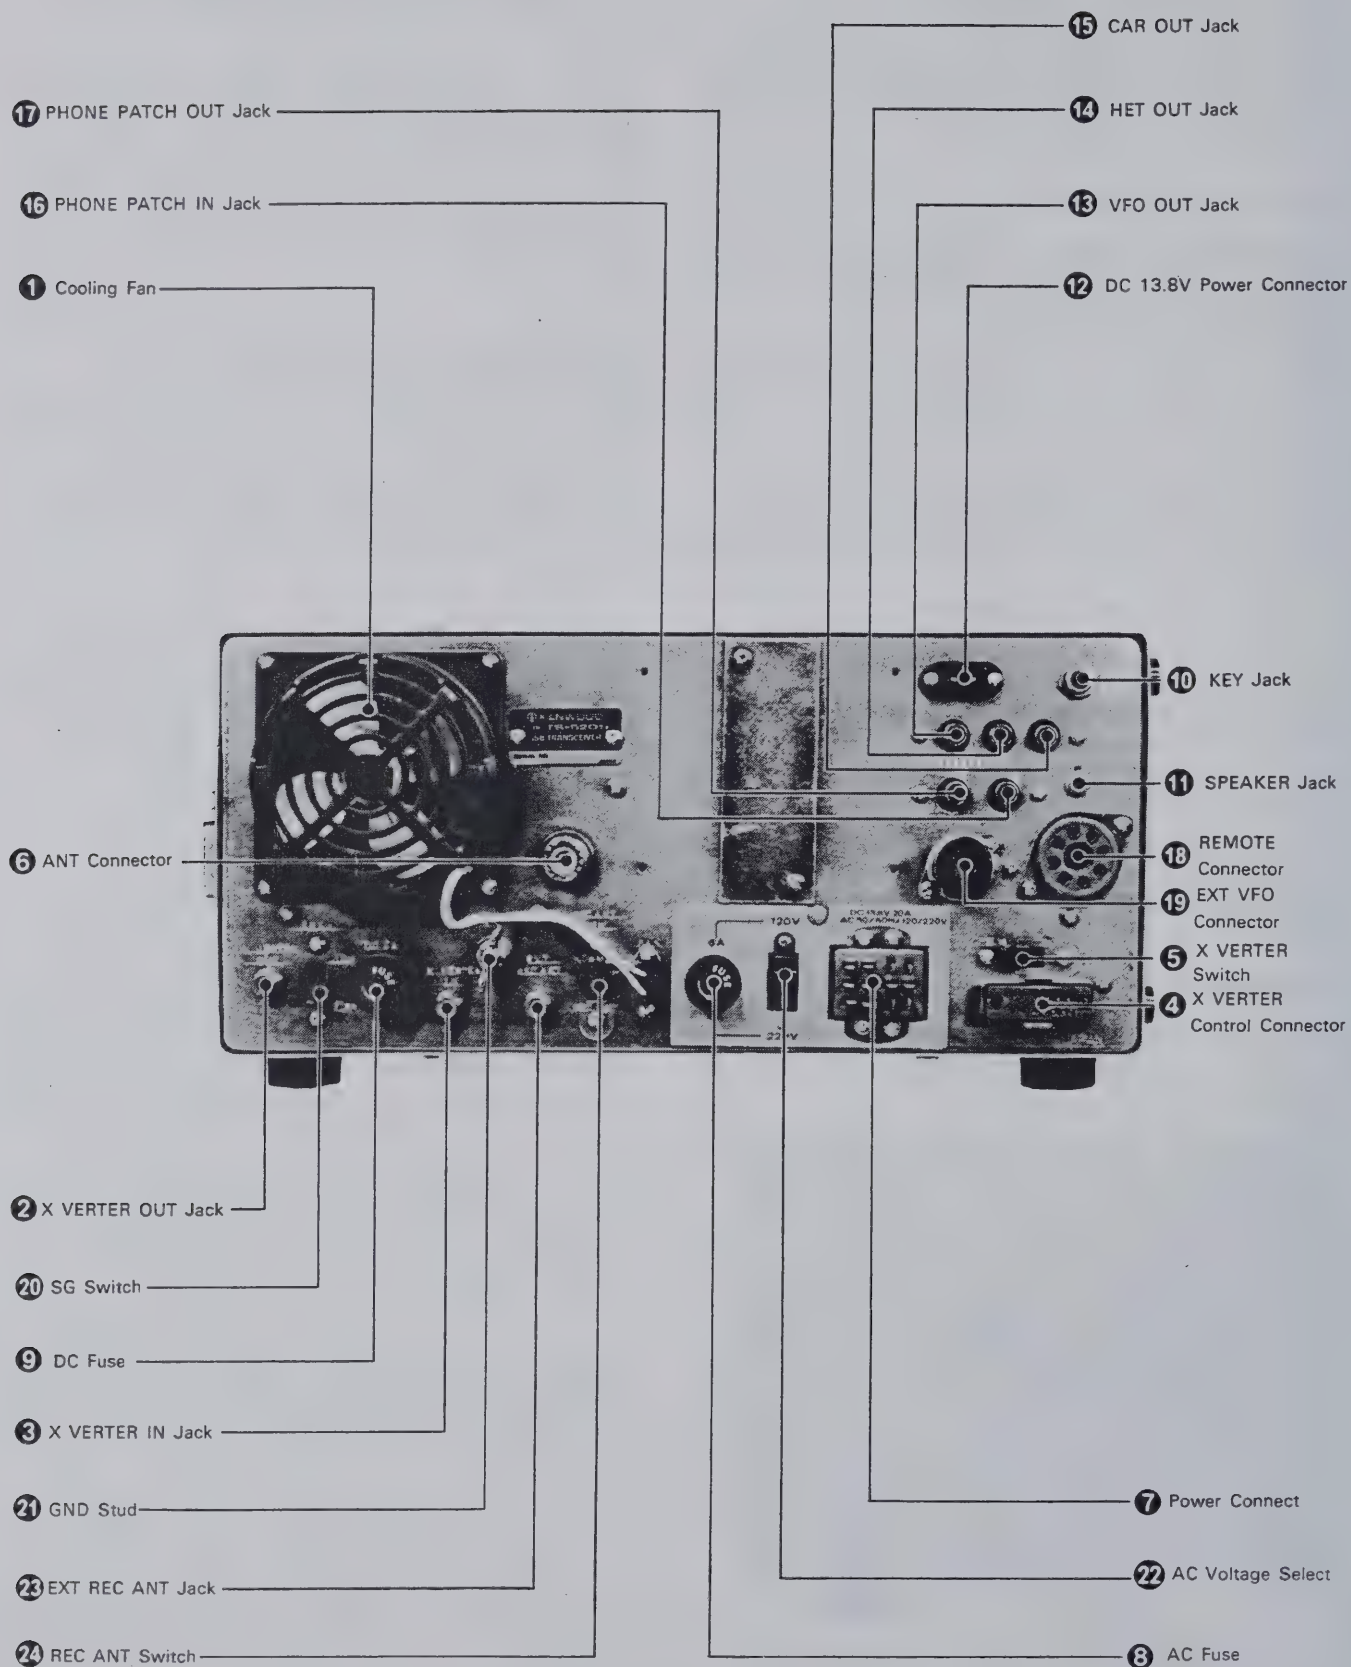

Fig. 7 Rear Panel Controls
3.3 REAR PANEL CONTROLS (See Figure 7)
■ COOLING FAN (① on Figure 7)
■ TRANSVERTER OUT JACK (② on Figure 7)
■ TRANSVERTER IN JACK (③ on Figure 7)
■ TRANSVERTER CONNECTOR (④ on Figure 7)
■ X VERTER SWITCH (⑤ on Figure 7)
■ ANTENNA CONNECTOR (⑥ on Figure 7)
■ POWER SUPPLY CONNECTOR (⑦ on Figure 7)
■ AC FUSE (8 on Figure 7)
■ DC FUSE (9 on Figure 7)
■ KEY JACK (10 on Figure 7)
■ SPEAKER JACK (11 on Figure 7)
■ 13.8V DC CONNECTOR (12 on Figure 7)
■ VFO OUT JACK (13 on Figure 7) HET OUT JACK (14 on Figure 7) CAR OUT JACK (15 on Figure 7)
■ PHONE PATCH IN JACK (16 on Figure 7)
■ PHONE PATCH OUT JACK (17 on Figure 7)
■ REMOTE CONNECTOR (18 on Figure 7)
■ EXTERNAL VFO CONNECTOR (19 on Figure 7)
■ SG SWITCH (20 on Figure 7)
■ GND (Ground) LUG (21 on Figure 7)
■ AC VOLTAGE SELECT SWITCH (22 on Figure 7)
■ EXTERNAL RECEIVER ANTENNA JACK (23 on Figure 7)
■ RECEIVER ANTENNA SWITCH (24 on Figure 7)